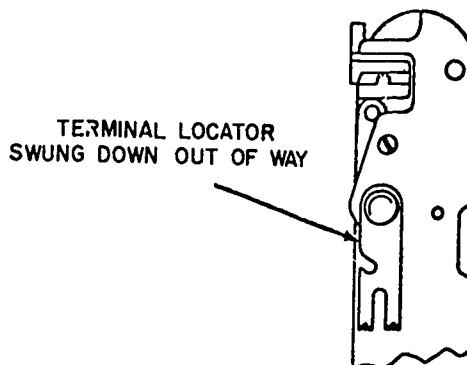

Figure 5.
- d. Turn the locator stop down and out of the way, see figure 5.